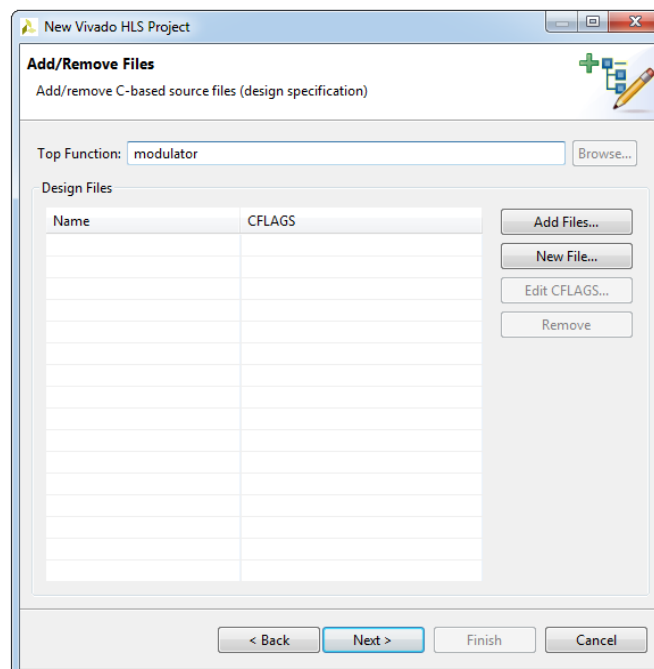

Figure 2.3: Add/Remove Files dialog box
- Specify **modulator** as the top-level function in the **Top Function** field, see Figure 2.3.